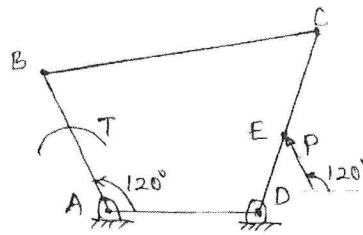

Fig.Q3(b)
- b. A four bar mechanism as shown in Fig.Q3(b), is acted upon by a force $P = 100\sqrt{120}^0$ N on link CD. The dimensions of various links are AB = 40 mm, BC = 60 mm, CD = 50 mm, DA = 30 mm and DE = 20 mm. Determine the magnitude and direction of input torque 'T' on the link AB for the static equilibrium of the mechanism.